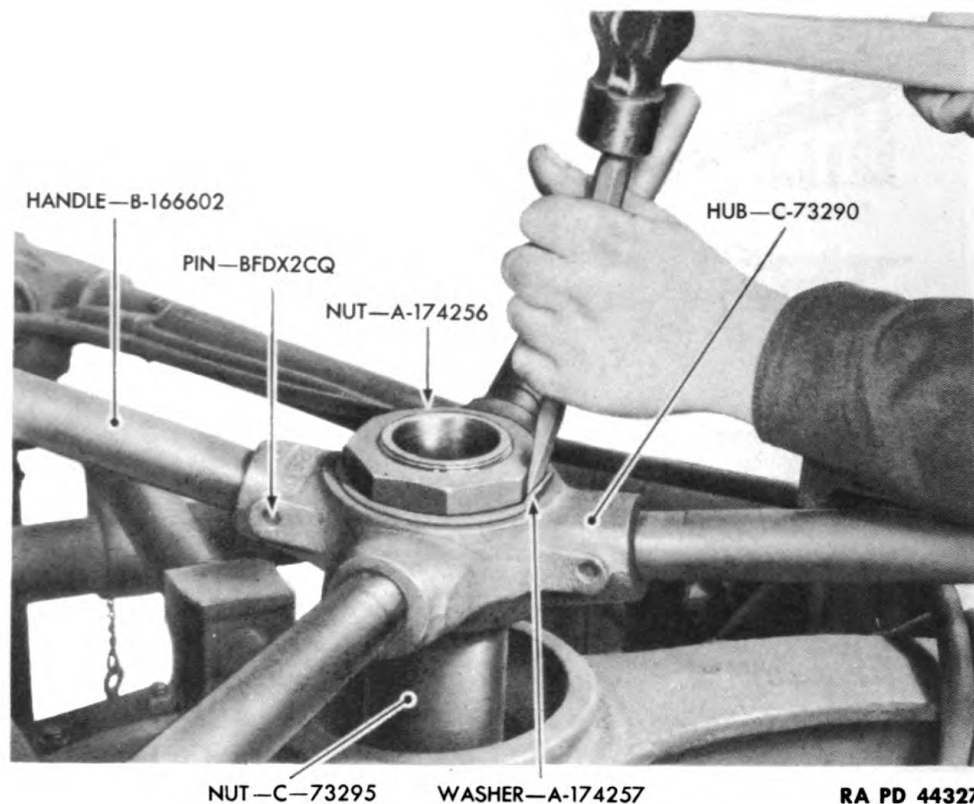

Figure 318—Unfastening Lock Washer
(1) Flatten turned-up edges of lock washer A174257 so nut A174256 can be turned (fig. 318). Remove the hexagonal nut and lift off lock washer.
(2) Remove four limber lifting mechanism hub handles B166602 from limber lifting mechanism hub C73290 by driving out four pins BFDX2CQ. Tap hub off limber lifting mechanism nut C73295.